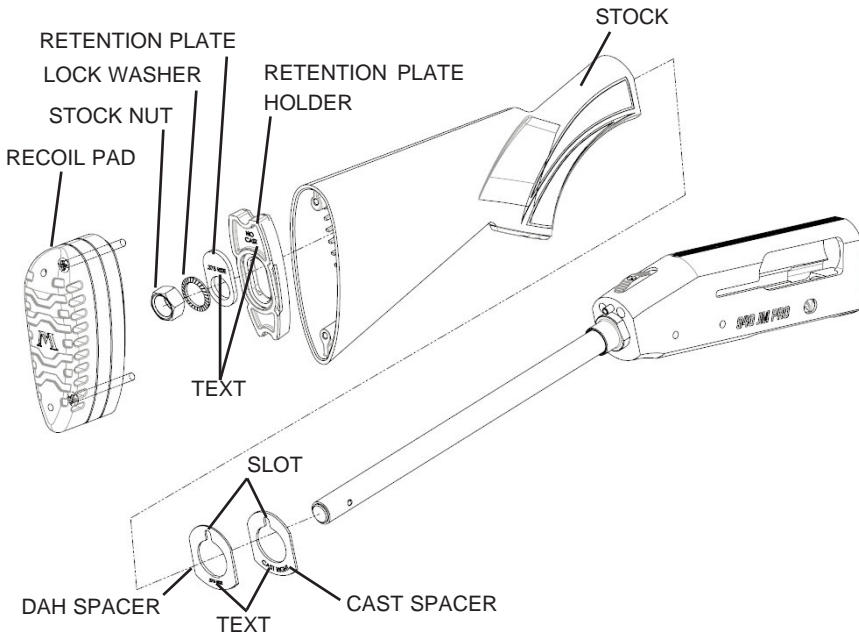

Figure 26
1. Remove the recoil pad (the screws will remain in recoil pad), Figure 26.
3. Remove the stock nut using a 3/4" socket wrench (Rotate counterclockwise) (Figure 26).